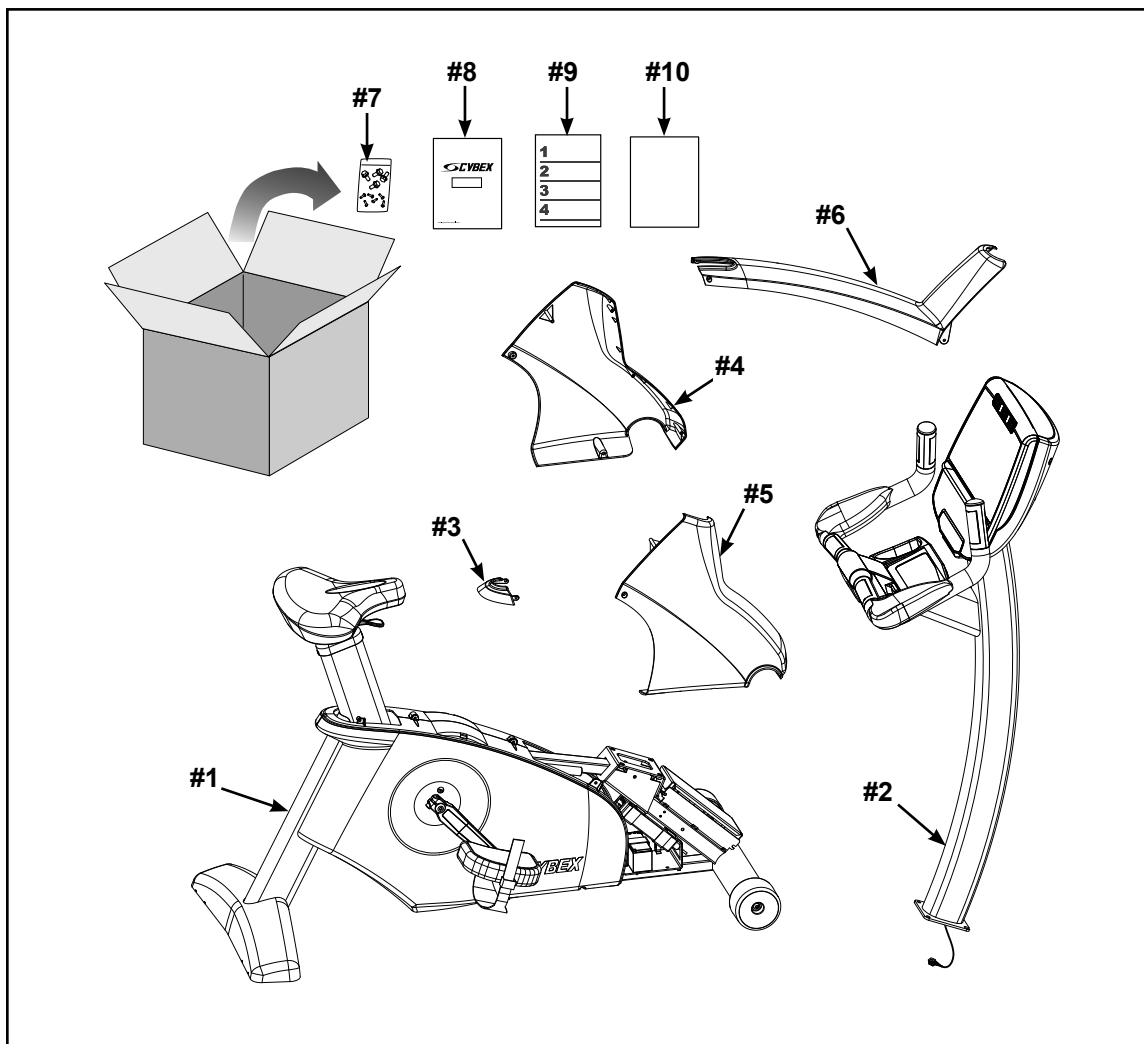

Figure 1a
- A. Verify the following items are present. See Figure 1a and 1b. Check off each item as found. See **Chapter 5 - Customer Service** for contact information if any parts are missing.